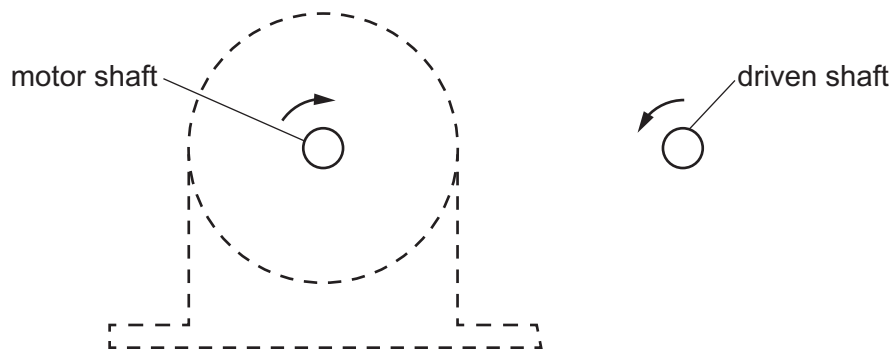

Fig. 4.1
- (b) Fig. 4.1 shows a motor shaft and driven shaft which will be connected using spur gears. The direction of rotation of the motor shaft and driven shaft are shown.